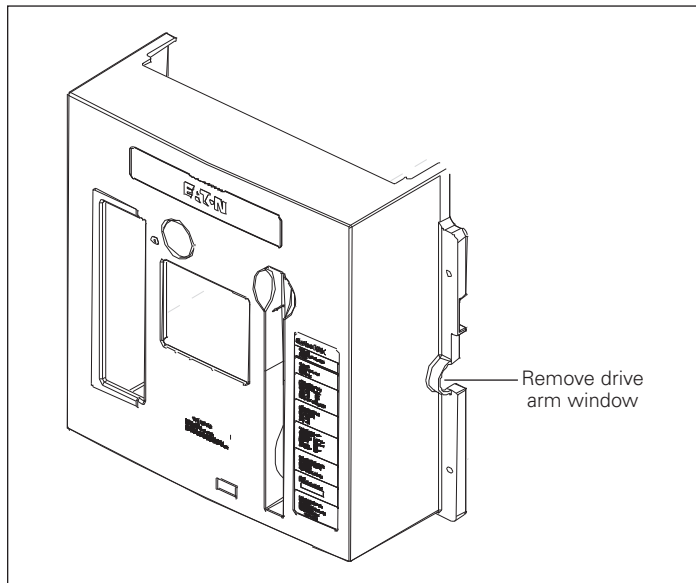
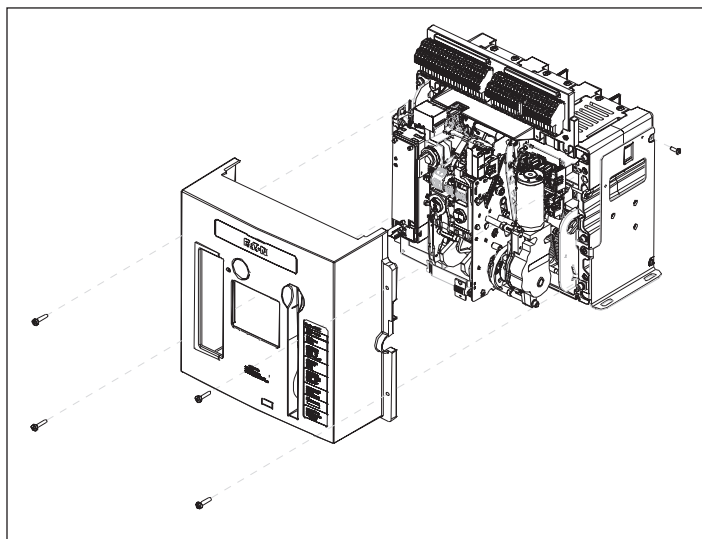
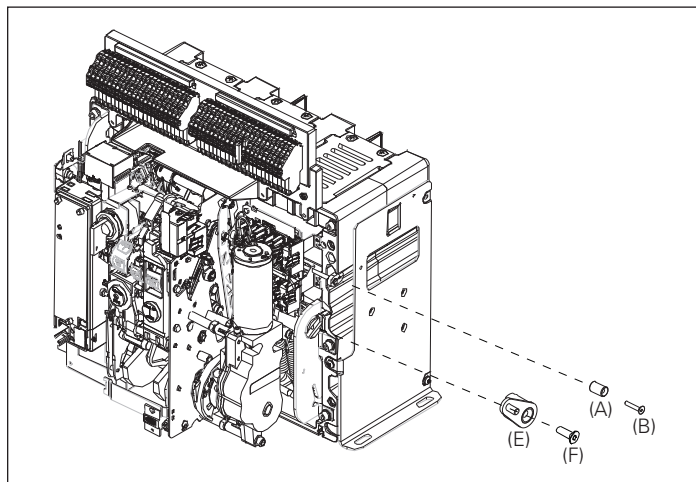

Figure 5. Details for Steps 1 and 2
Figure 4. Details for Steps 1 and 2
Figure 6. Details for Steps 3 and 4
Remove the four screws (six for 4-pole breaker) holding the cover in place. Pull down on the charging handle and remove the front cover as shown in **Figure 4**. Remove drive arm window as shown in **Figure 5**. Either use a utility knife to cut the window from the cover or use a punch and a small hammer to carefully punch out the window. Once the window is removed, use a small file to remove any burrs that remain. Make certain that all pieces and/or particles are cleaned up and removed before proceeding.
Remove and retain the upper right M5 x 12 mm screw from the fixed breaker mounting foot (ref. IL01301076E) as shown in **Figure 4**.
Install the drive arm (E) to the end of the pole shaft using an M6 x 35 mm flathead screw (F) as shown in **Figure 6**. Apply Loctite® Blue 242 to ensure that the screw cannot come loose during operation. The drive arm should be oriented as shown in **Figure 5**. Torque to 7,3–9,6 N·m (65–85 in·lb).
Install the trip pin (A) to the trip bar using an M3 x 16 mm flathead screw (B) as shown in **Figure 6**. Apply Loctite Blue 242 to ensure that the screw cannot come loose during operation. Use a wrench to hold the trip lever during installation. Torque to 0,3–0,6 N·m (3–5 in·lb).